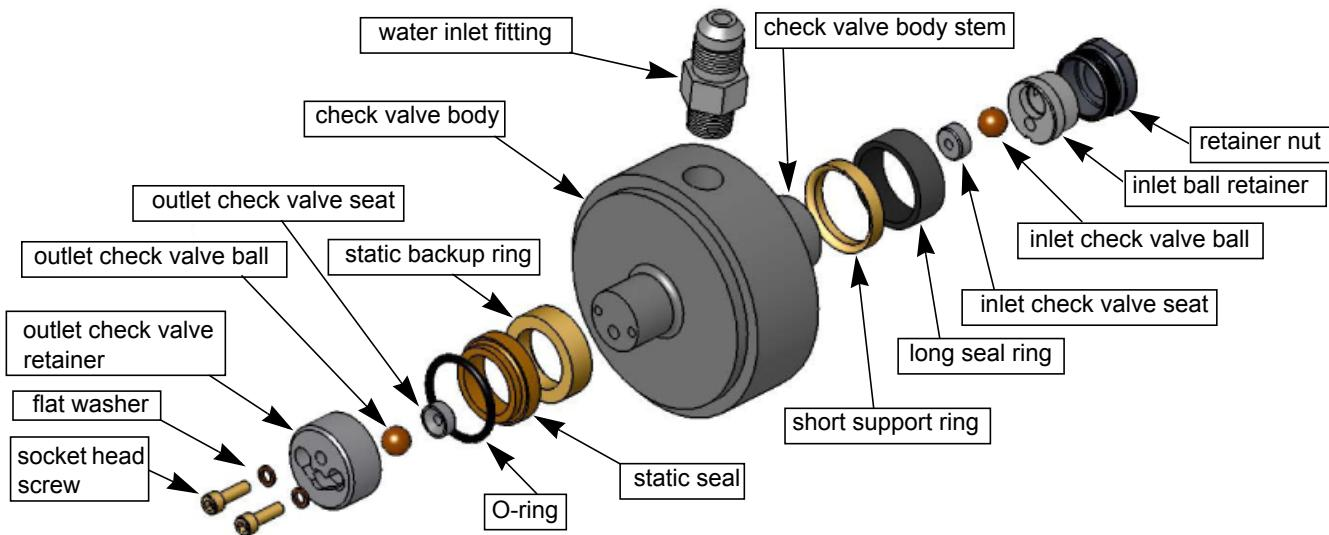

Figure 6-18
2. Referring to Figure 6-18, remove **inlet ball retainer**, **inlet check valve ball**, and **check valve seat**. Needle nose pliers can be helpful when removing the Inlet ball retainer.